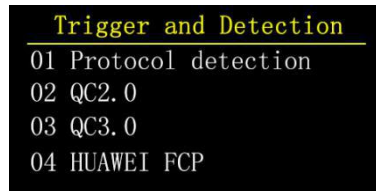

Figure 5
4、 Fast charge detection and trigger page (Figure 5)